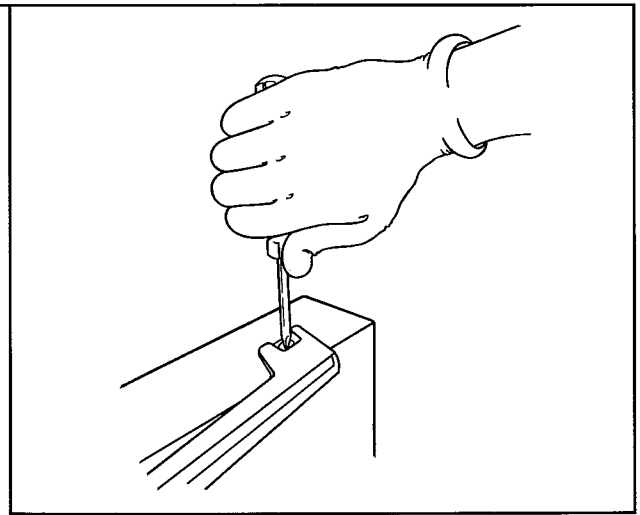

Figure 44
- b. Using a Phillips screwdriver, remove handle screws on top side of each handle on both doors. See Figure 44.